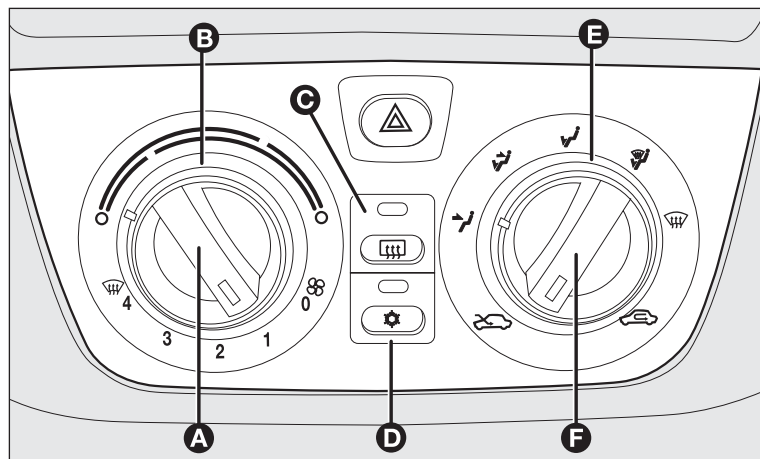

fig. 64
CONTROLS fig. 64
AIR DISTRIBUTION fig. 64
Using knob **E-fig. 64** it is possible to choose manually 5 of the possible air distributions to the passenger compartment:
Turn knob **B-fig. 64** clockwise (pointer to red sector) to increase temperature or turn it counter-clockwise to decrease temperature;
- ☐ turn knob **B-fig. 64** to the blue sector;
Set knob **F-fig. 64** to .
- ☐ turn knob **B-fig. 64** to the red sector;
- ☐ set knob **F-fig. 64** to  to turn air recirculation off;
Press button **C**-fig. 64 to turn this function on. When this function is on, the button led turns on.
- ☐ turn knob **B**-fig. 64 to the blue sector to select temperature;
- ☐ set knob **F**-fig. 64 to  to turn air recirculation off;